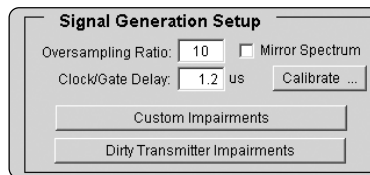

Figure 47. Signal Generation Setup menu with Clock/Gate Delay setting returned from the calibration utility.
8. Place the marker at the desired Clock/Gate Delay setting using the arrow buttons and select the **Set Delay** button. Then select the **OK** button. The Clock/Gate Delay setting associated with the current marker location is returned to the Clock/Gate Delay field, Figure 47, in the Signal Generation Setup menu and the calibration utility is closed.